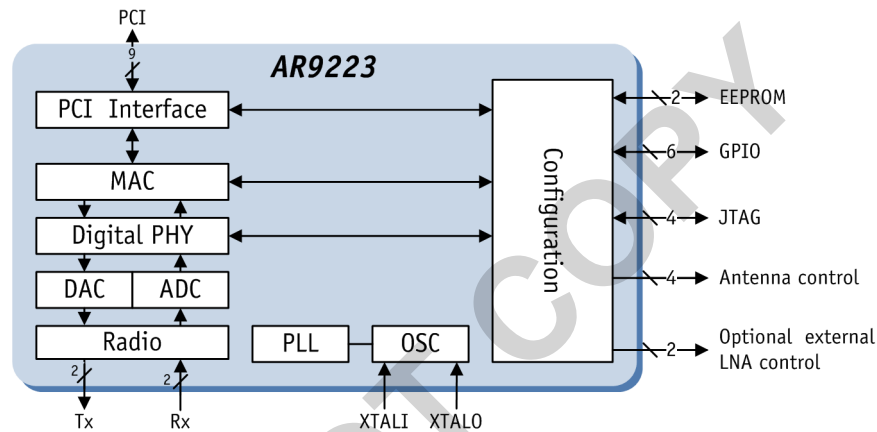

Figure 2-1. Functional Block Diagram of the AR9223
The baseband digital processing functions are implemented by the digital PHY of the AR9223. The radio frequency (RF) and baseband analog processing are provided by the integrated radio. The physical layer (PHY) is partitioned between the baseband processor and the radio. The configuration block, PLL, ADC, DAC, EEPROM interface, JTAG, antenna control, LED controls and GPIO complete the AR9223 functionality. See Figure 2-1.